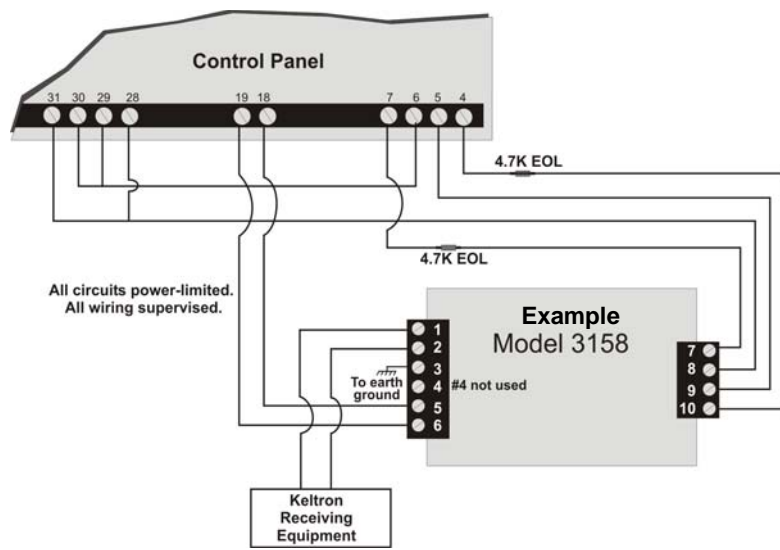

Figure 4-40 Keltron 3158 Connection to Control Panel
1. Wire the 3158 to the control panel as shown in the connection list and Figure 4-40.